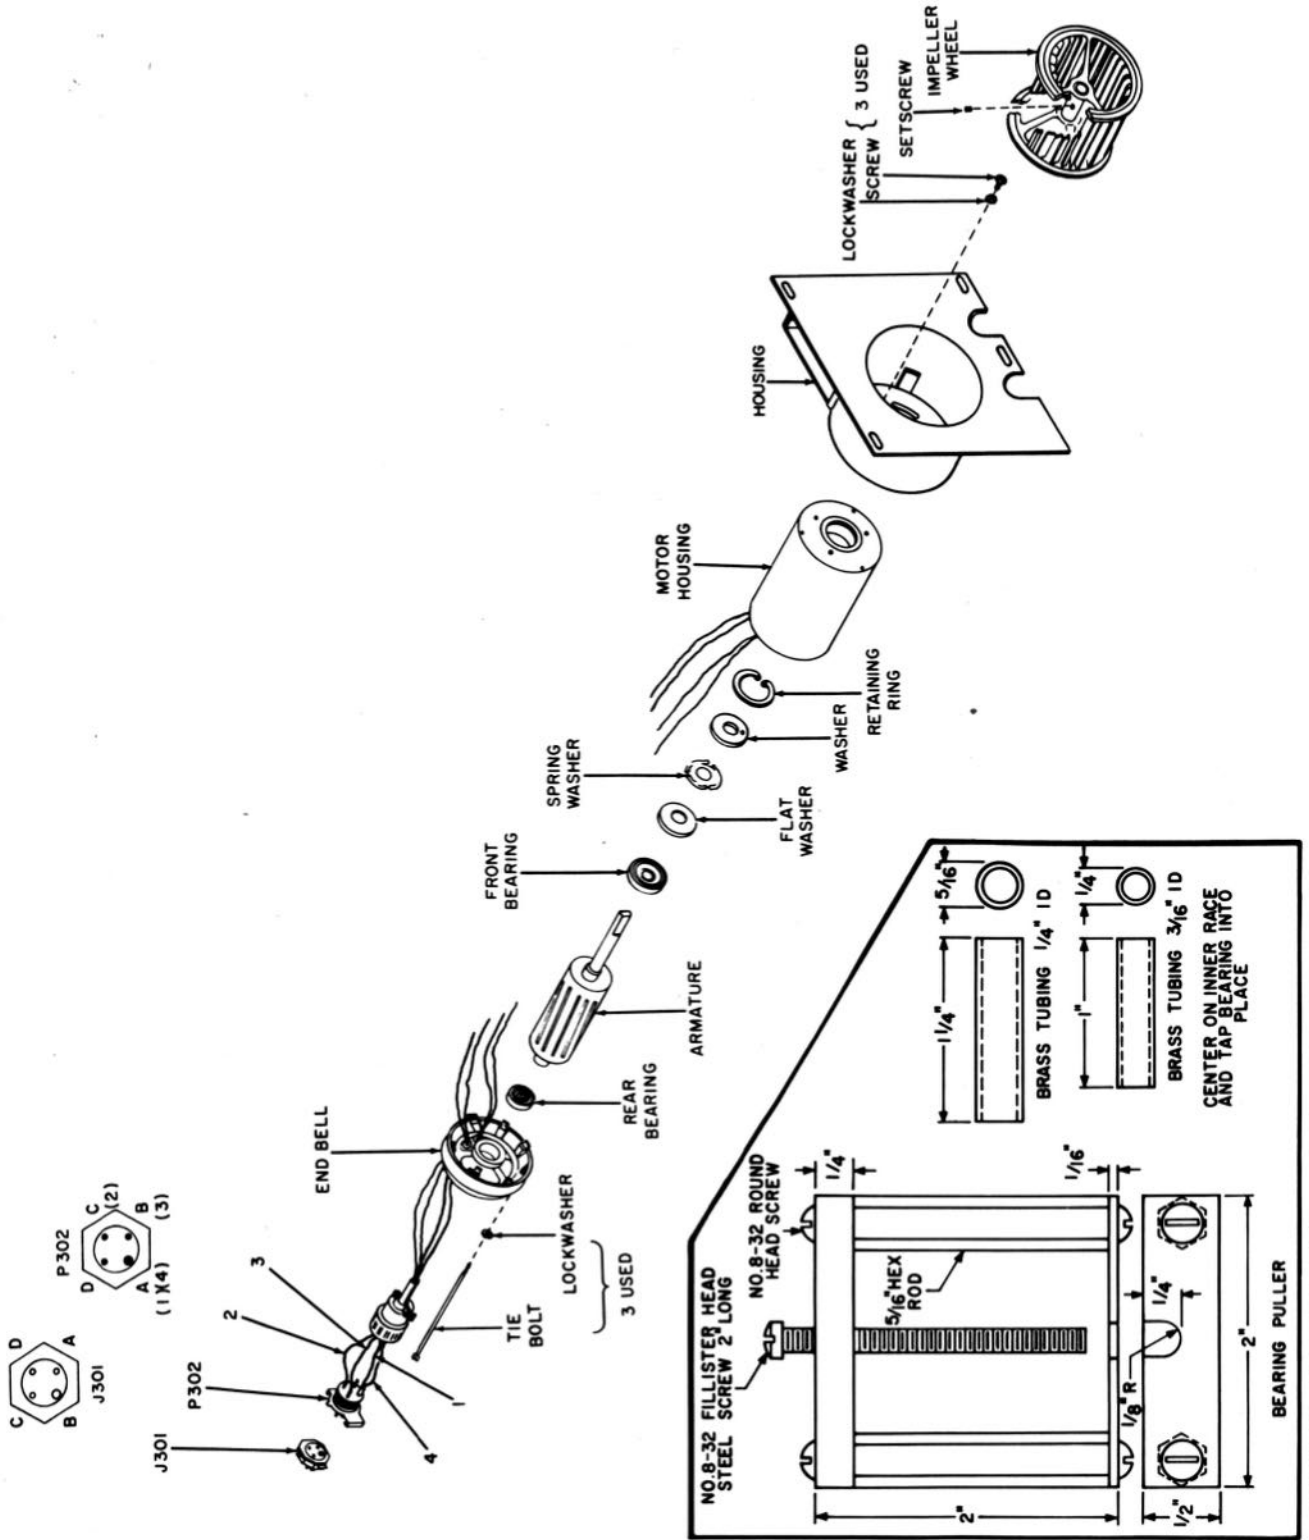

Figure 7-15. Blower Bl301, Exploded View
(1) Remove the chassis completely from the cabinet (see paragraph 2a, Section 3).
(2) Turn the catch on plug P302 counterclockwise to free it from the flange on receptacle J301. Remove the plug from the jack.
(3) Remove the four mounting screws which hold the fan housing to the chassis frame.
(4) Lift the blower assembly out of the chassis frame.
d. BLOWER-MOTOR BEARINGS.—An exploded view of blower BL301 is shown in figure 7-15. This shows the locations of the two sets of bearings which are located, one at each side of the armature on the motor shaft. When the operation of the blower motor gets noisy, replace these bearings, using the following procedure:
(1) Remove the blower, BL301, from the chassis according to instructions in paragraph 6b above.
(3) Remove the three tie bolts, accessible from the rear of the end bell.
(4) Withdraw the armature with its associated washers. Do not lose any of the three washers or the retaining ring.
(5) Remove the two ball bearings from the armature shaft, using a bearing puller. If necessary, construct one according to the instructions in figure 7-15.
(6) Fit new ball bearings on the shaft, using an arbor press or other suitable bearing installer tool. Use the proper bearing in each position. Front bearing O308 has a $\frac{1}{4}$ -inch bore and a $\frac{3}{4}$ -inch outside diameter. Rear bearing O309 has a $\frac{3}{16}$ -inch bore and a $\frac{1}{2}$ -inch outside diameter.
(7) Reassemble the blower in the reverse sequence of disassembly. Be certain that the three washers and the retaining ring are properly positioned